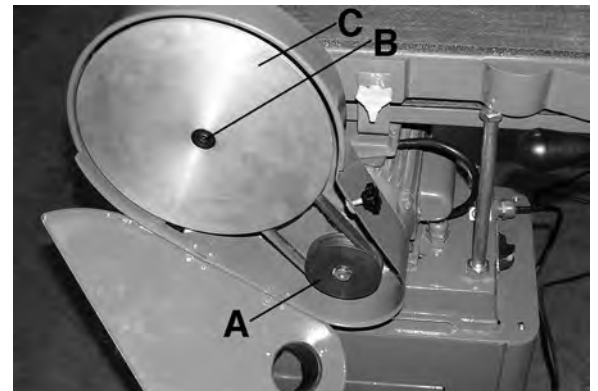

Figure 22
3. Undo and remove the sanding disc cover lock knob and open the sanding belt cover to expose the motor drive pulley (A) as shown in Fig.22.
6. To completely remove the drive V-belt, the aluminum disc must be removed. Remove sanding disc from aluminum disc. Undo the cap screw (B) Fig.22 and pull the aluminum disc (C) off the sanding disc/belt transmission shaft.